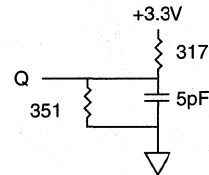

Fig. 2 OUTPUT LOAD EQUIVALENT
- Output loading is specified with $C_L = 5pF$ as in Fig. 2. Transition is measured $\pm 500mV$ from steady state voltage.
- The load used for VOH, VOL testing is shown in Fig. 2. AC load current is higher than the shown DC values. AC I/O curves are available upon request.